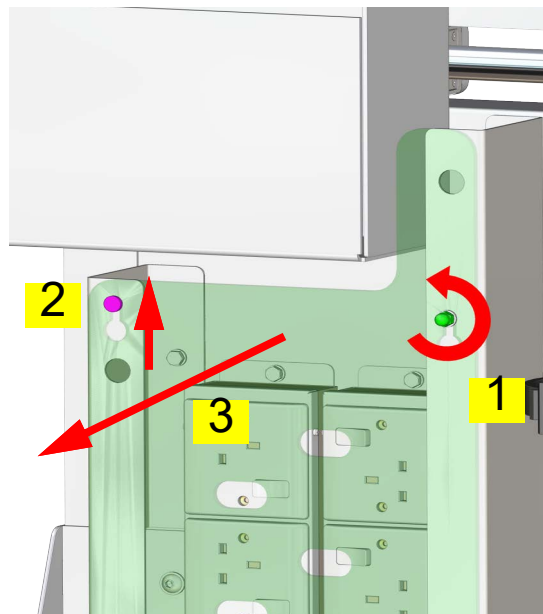

Fig 3.1 Power Distribution Unit Cover - Removal
- Loosen, but do not remove, M6 dome nut (1).
- Slide cover upwards (2) so that fixings align with lower part of keyhole slots and pull cover away (3) (Fig 3.1).